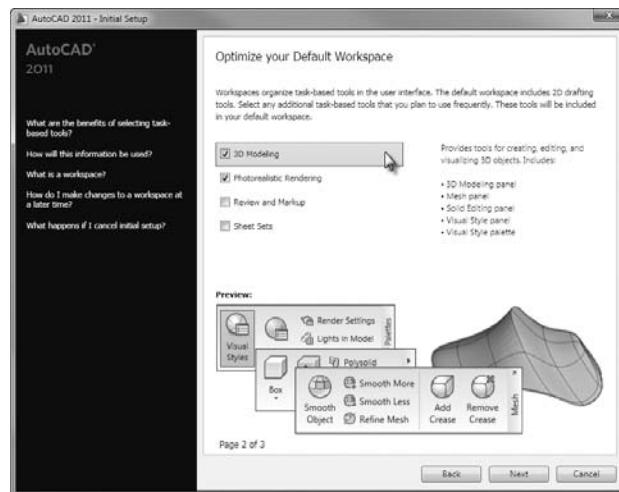

FIGURE 16.3 Choosing the tool category in the second Initial Setup window
3. The second Initial Setup window contains a list of tool categories that can be displayed in the workspace. Check the 3D Modeling and Photorealistic Rendering options, as shown in Figure 16.3, and then click Next.